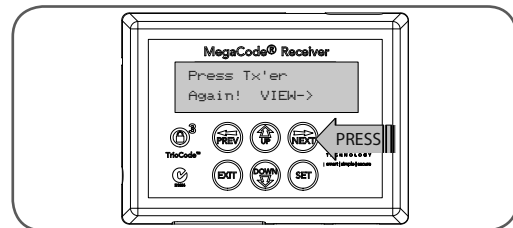
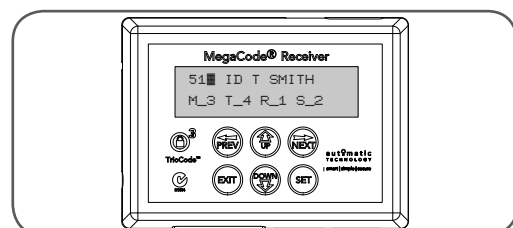

fig 13
fig 14
4. Press NEXT to view transmitter parameters (Fig. 13). This is used for quick navigation if the transmitter is available. The transmitter details will be shown (Fig. 14).